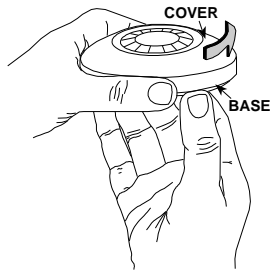

Figure 3 - Removing the Cover
- C. Hold the unit base as shown in Figure 3. Rotate the cover counter clockwise until it stops. Separate the cover from the base.